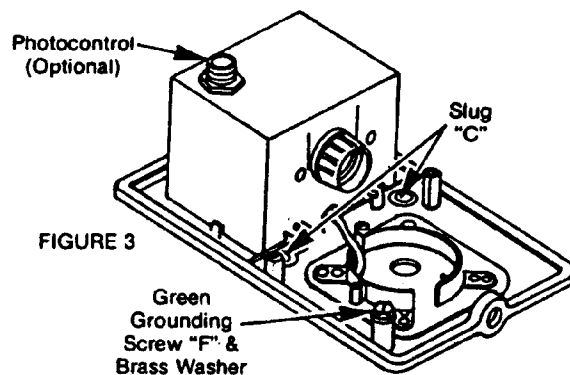

FIGURE 3
3. MOUNTING WITH TWO (2) BOLTS (Fig. 3)